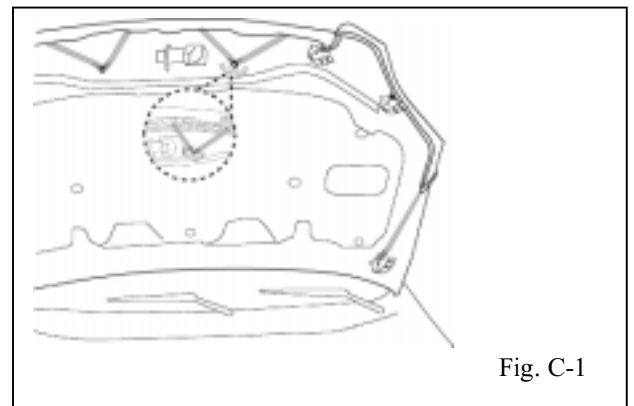

Fig. C-1
- ➡ 2. Attach two (2) elastic straps with ☐ hook to holes at sides at bottom of hood (Fig. C-1.) At the top of the hood pull two (2) elastic loops with ☐ hook through the grill and attach to each hole on each side of the hood latch area. At the side of the grill attach one (1) elastic with ☐ hook to the edge on each side. In between the side grill hook and the long strap to the bottom hole, attach one (1) ☐ hook to the hole next to the rubber strip